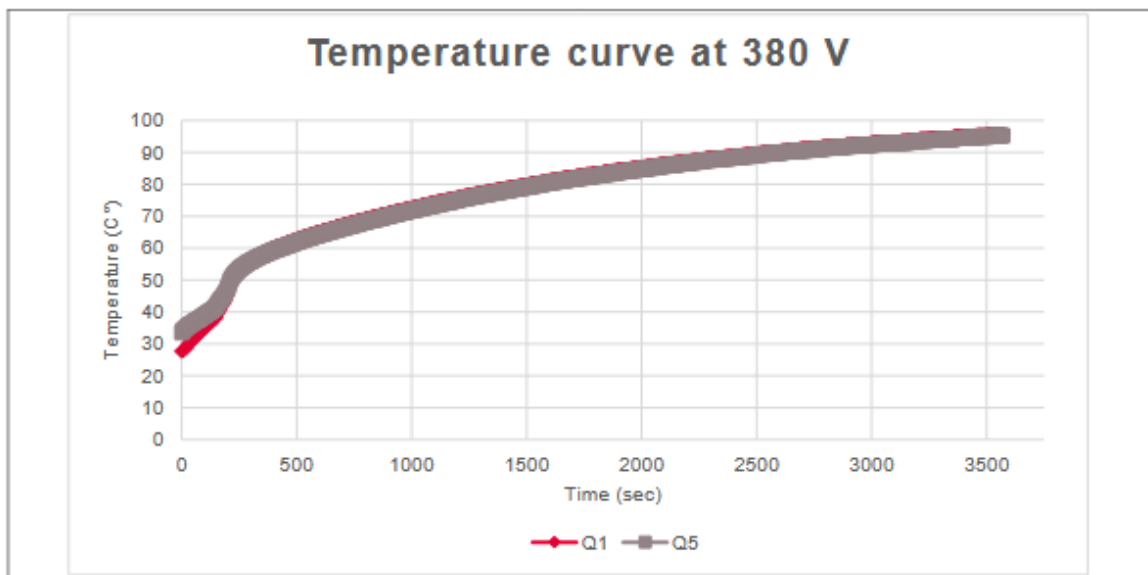

Figure 53 Temperature curves at 380 V
- Fig. 53: Measured temperature is approx. 100 °C in steady state @ 380 V.
- Fig. 53: Ambient temperature appears to be approx. 30 °C.